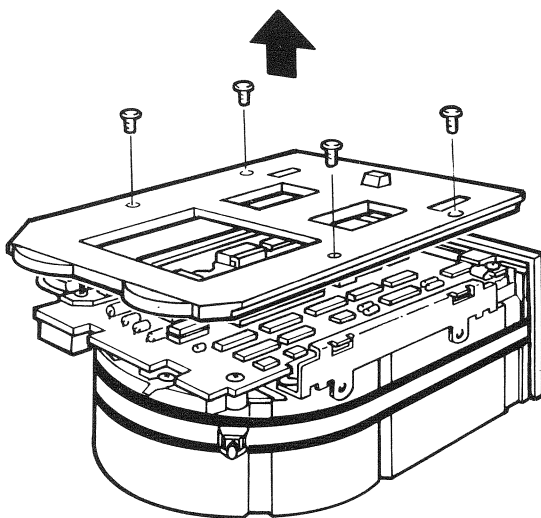

Figure 8-11 Slide Plate Removal
1. Remove the four Phillips screws retaining the slide plate and ground clip. Set the slide plate aside (Figure 8-11).